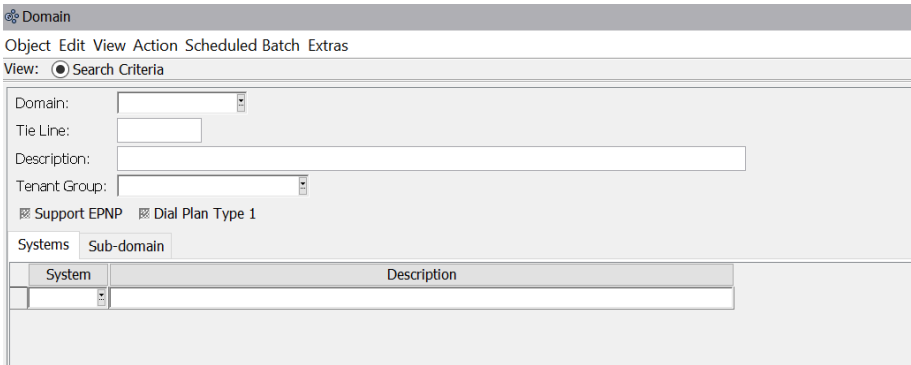

Figure 63: Creating a New Domain Object
- 4) Click the Base Data tab, and enter appropriate values in the following fields (see Figure 63).